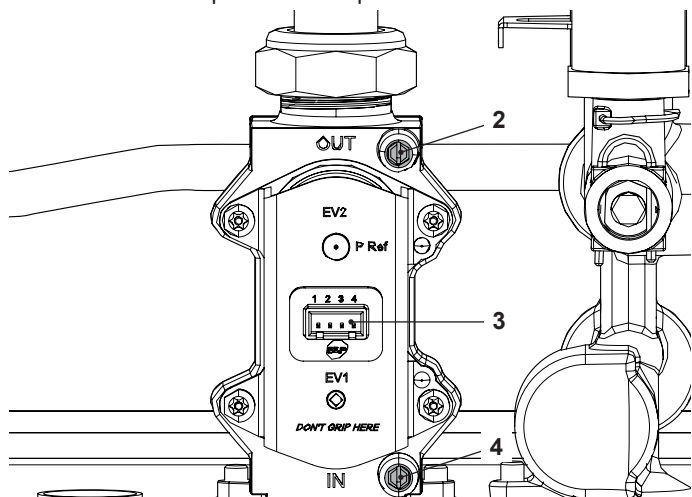

Figure 9.2
(Figure 9.2)
- 3 Loosen the internal screw on the Inlet Pressure Test Point "4" (Figure 9.2) of the Gas valve and connect a pressure gauge using a suitable hose.
- 7 Disconnect the pressure gauge and close the Inlet Pressure Test Point "4" (Figure 9.2).